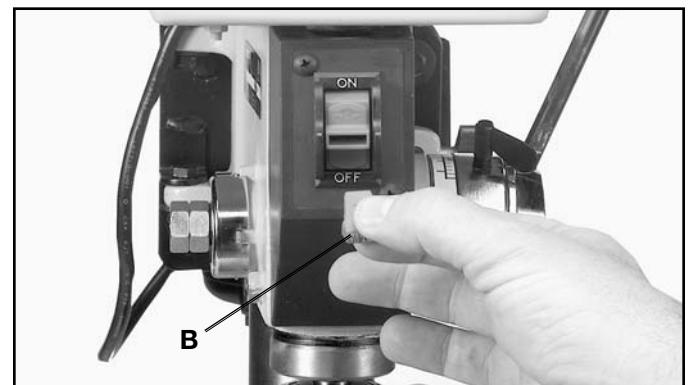

Fig. 26
When the tool is not in use, the switch should be locked in the "OFF" position. This can be done by grasping the switch toggle (B) and pulling it out of the switch, as shown in Fig. 26. With the switch toggle (B) removed, the switch will not operate. However, should the switch toggle be removed while the drill press is operating, the switch can be turned "OFF" once, but cannot be restarted without inserting the switch toggle (B).